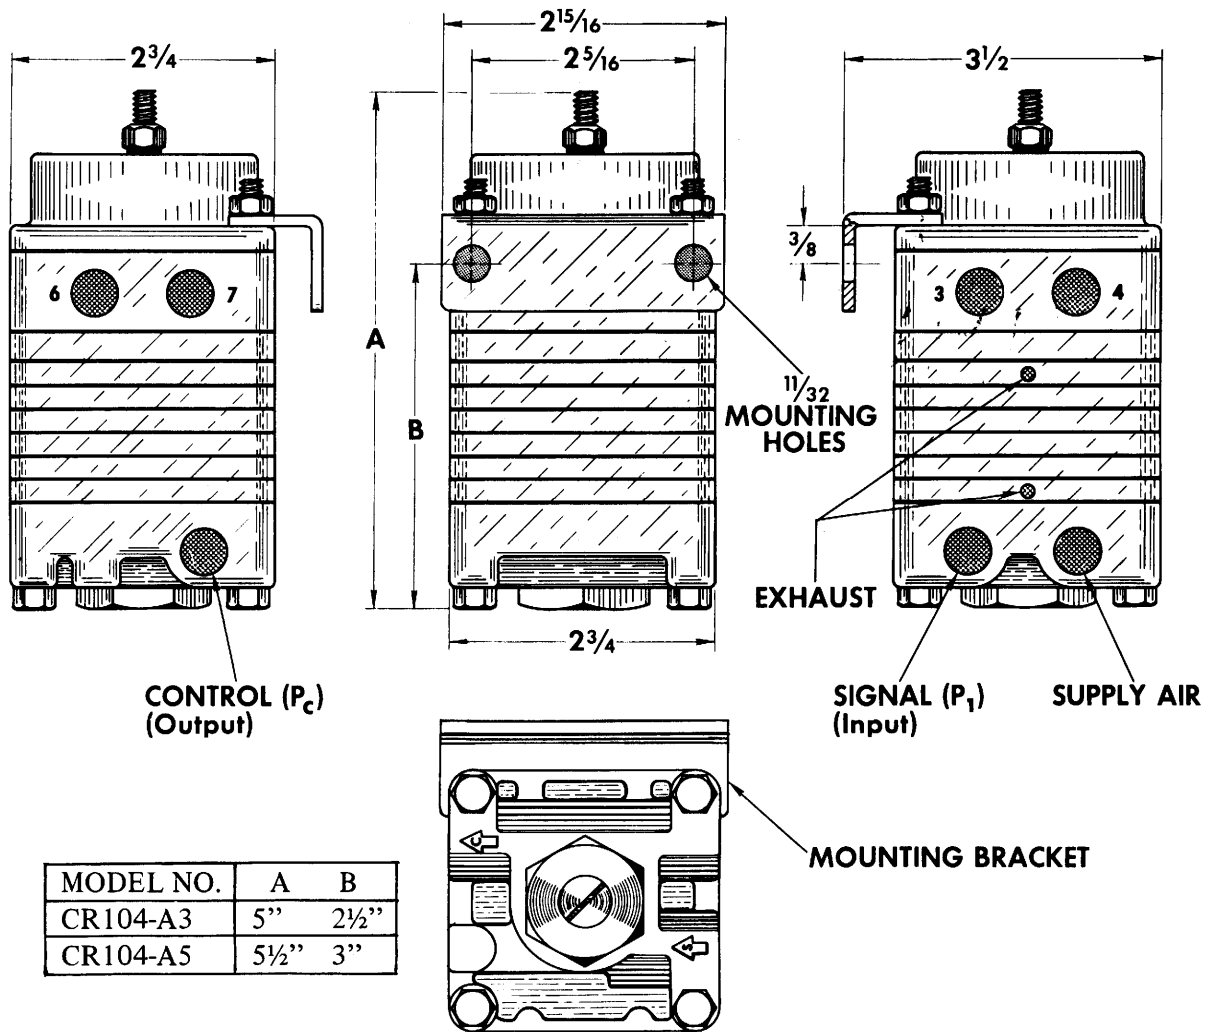

Figure 1
P_1, P_6, P_3, P_4 and P_5 are input signal pressures. (The subscript refers to ports marked in Figures 1 and 2.
if more secure mounting is desired, use the mounting bracket furnished as shown in Figure 1. Use 1/4" bolts, toggle bolts, or wood screws as required by the installation. Bracket may be removed or inverted by removing two nuts.
All port openings are 1/4" FPT. Make air connections to the proper ports as shown in Figure 1. The input signal pressures (P₁, etc.) are connected to tapped inlets numbered to correspond; i.e., P₁ connects to inlet (1), P₂ connects to inlet (2), etc. *The air supply must be clean and regulated (use filter regulator No. 97478), and must not exceed 60 psi.*